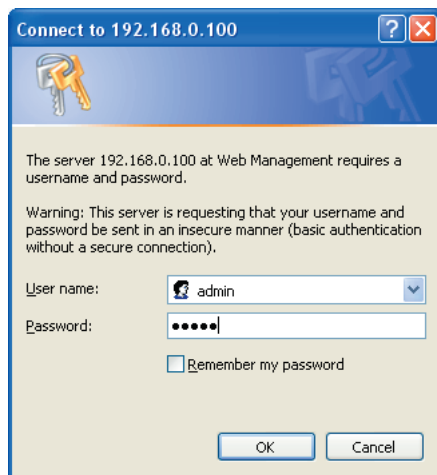

Figure 7-2: Login Screen
2. When the following dialog box appears, please enter the default user name and password **"admin"** (or the password you have changed via console). The login screen in Figure 7-2 appears.